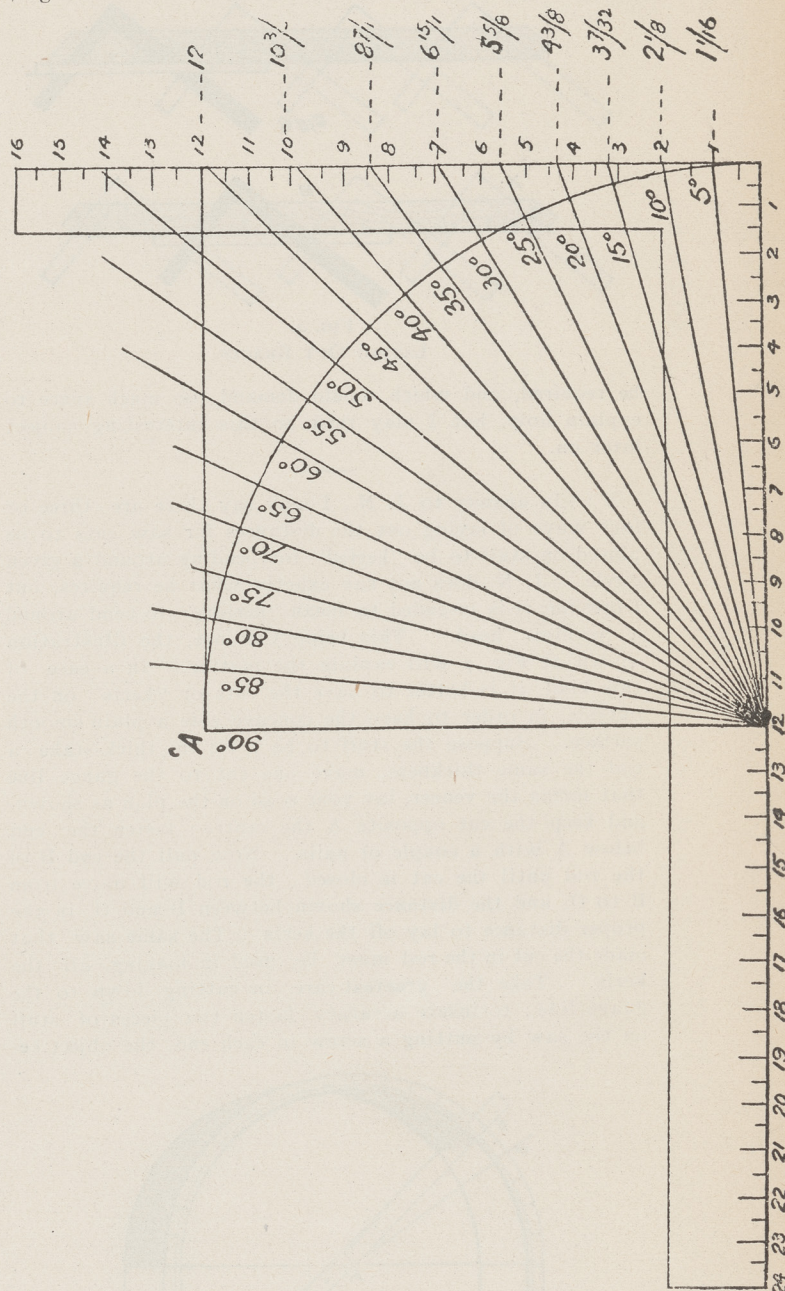
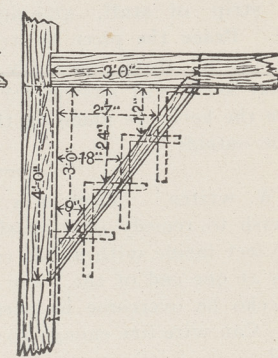
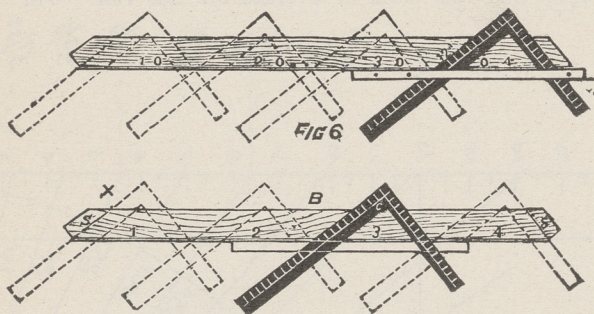

FIG. 2.—LAYING OFF DEGREES BY STEEL SQUARE
FIG. 3.
FIG. 4.
W. T. : Replying to P. McF., who, in your last issue asks if there is a correct method of laying off degrees with the steel square? I may say there are several methods one of which I enclose as shown at Fig. 2, and which I think is among the best. It will be seen by the diagram the relationship of certain divisions of the circle to different figures on the square is indicated. The divisions shew the degrees from 5 to 90 with the exact figures on the tongue necessary to produce the same. This diagram is also useful in roof work, as for example: if a pitch of 25 degrees is required, use 12 inches on the blade and 5 5/8 on the tongue. By reversing the conditions, 65 degrees will be established. Indeed, this scheme may be used for the solution of many problems in the construction of angles. With regard to laying out "braces" for that is what P. Mc F. means I suppose, I may quote from the "Steel Square and its Uses." If we examine the illustration, Fig. 3, we find a brace having a run on the girt of three feet, and a run on a post of four feet, which of course, is an unequal run. The positions of the square for laying the run off, are shown by the dotted lines. To get the length of brace and level of cut for this "run," we take nine inches on the tongue, and twelve inches on the blade, and the distance between the two figures—9 and 12—will give the length of "one foot run" as measured on the brace, and the line marked on the edge of the tongue, will give the top cut of the brace, while the line along the edge of the blade will give the cut or bevel of the brace fitting against the post. The operation is to be repeated four times as shown at Fig. 4. If we want a brace with a two foot run and a four